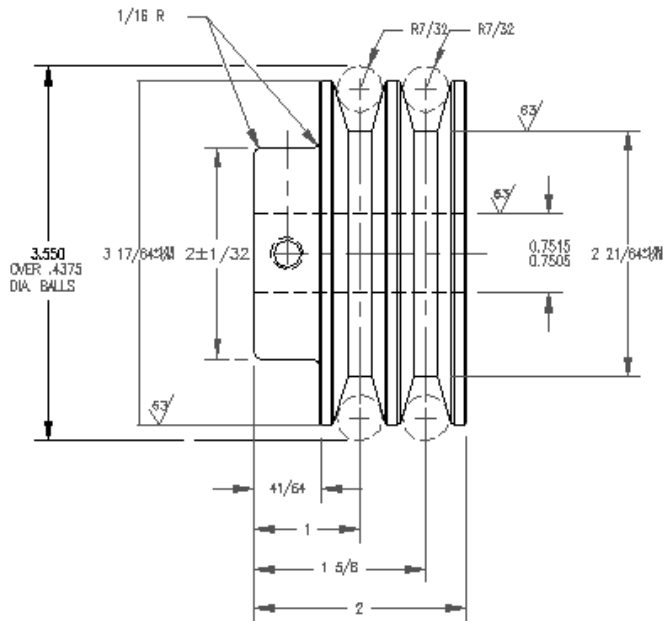

Figure 14-31: The model with added radius and baseline dimensions.
5. Save your drawing. It should look approximately like Figure 14-31.